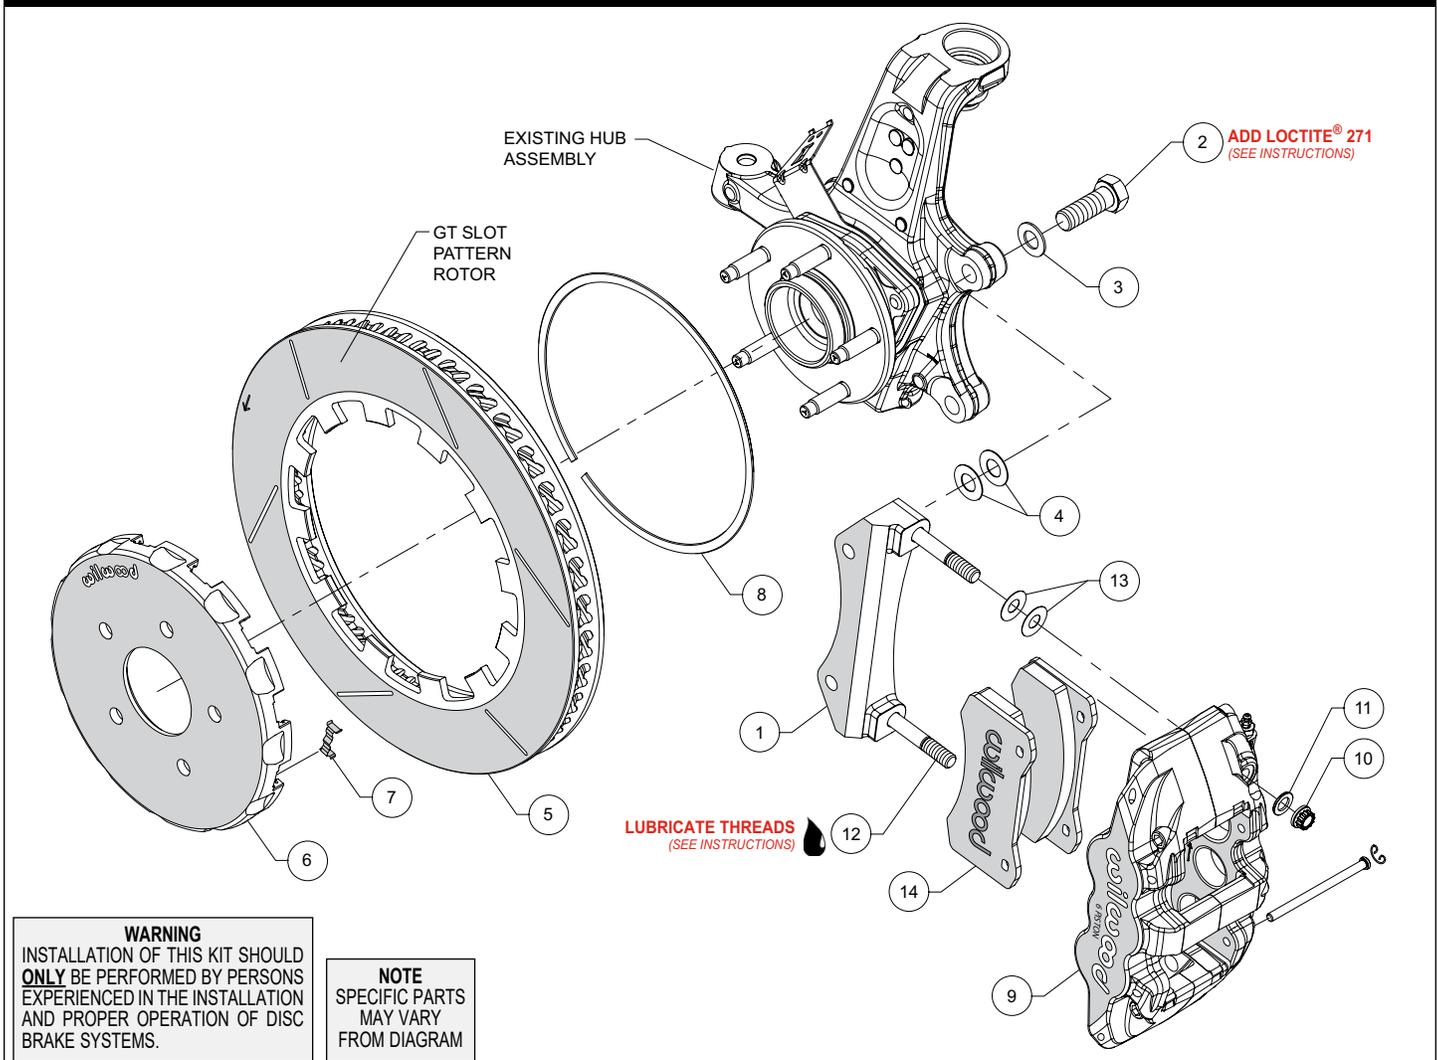

Figure 1. Typical Installation Configuration
NOTE: Numbers in parenthesis refer to the parts list and Figure 1 on the preceding pages.
- The caliper mount bracket (1) should initially be installed with clean, dry threads on the mounting bolts. Orient the bracket, as shown in Figure 1 and Photo 1, and install using bolts (2) and washers (3). Initially place two .029" thick shims (4) on each bolt between the bracket and upright, Figure 1. Temporarily tighten the mounting bolts. **NOTE:** The bracket must fit squarely against the mount bosses on the upright. Inspect for interference from casting irregularities, machining ridges, burrs, etc. Later, after the caliper alignment has been checked, the mount bolts will be secured using red *Loctite*® 271.
- Insert the dynamic mount wear clips (7) into the slots in the hat (6), Photo 2. Orient the rotor (5) as shown in Figure 1 and Photo 3, with the flush side of mount lugs facing the hat. Secure the rotor to the hat using the snap ring (8) by simultaneously pushing down on the rotor and installing the ring into the groove in the hat, as shown in Photo 4. Carefully inspect snap ring to ensure complete engagement in the groove.
- NOTE:** This kit contains distinct right and left hand calipers that must be mounted in a specific direction, as described below. Lubricate the caliper mounting studs (12) with lightweight oil. Initially place two .016" thick shims (13) on each stud between the caliper and the bracket, as shown in Figure 1 and Photo 5. Mount the caliper (9) onto the bracket (1) using lock nuts (10) and washers (11), Figure 1. Temporarily tighten the lock nuts. Ensure that the caliper is mounted so the largest pistons are at the rotor exit end of the caliper, in relation to the direction of the rotor. View the rotor through the top opening of the caliper. The rotor should be centered in the caliper, Photo 6. If not, adjust by adding or subtracting shims (4) between the bracket and the upright. Always use the same amount of shims on each of the two mounting bolts. Once the caliper alignment is correct, remove the bracket mounting bolts (2) one at a time, apply red *Loctite*® 271 to the threads, and torque to 77 ft-lbs.
- Unmount the caliper from the mounting bracket by removing lock nuts (10) and washers (11). Remove the two pad retaining pins from the caliper (9) by carefully popping out the pin retaining clips and sliding out the pins. Insert the brake pads (14) into the caliper from the bottom, Figure 1 and Photo 7. With the friction material facing the rotor, secure the brake pads in place with the pad retaining pins and clips, Photo 8. Reinstall the caliper onto the caliper mounting bracket and temporarily tighten the lock nuts (10). Check that the top of the brake pad is flush with the outside diameter of the rotor, Photo 9. If not, adjust by adding or subtracting shims (13) between the caliper and the bracket. After the caliper pad height is set, torque the caliper lock nuts (10) to 47 ft-lb.